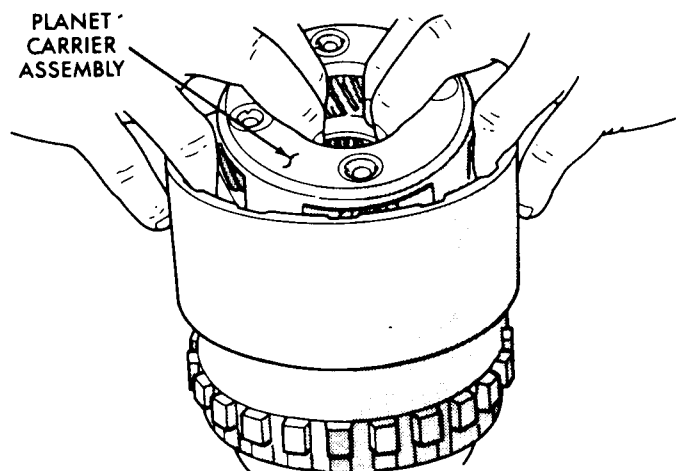
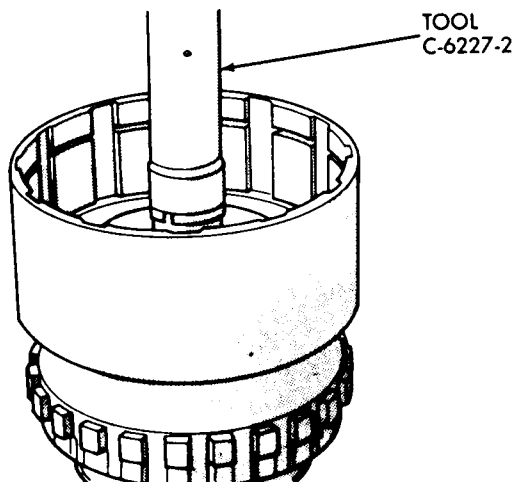

Fig. 3—Install Planet Carrier
Fig. 4—Align Splines
(3) Carefully set carrier assembly into annulus (Fig. 3) and align the splines using Tool C-6227-2 (Fig. 4).